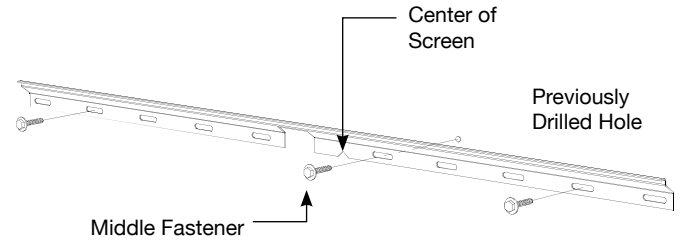
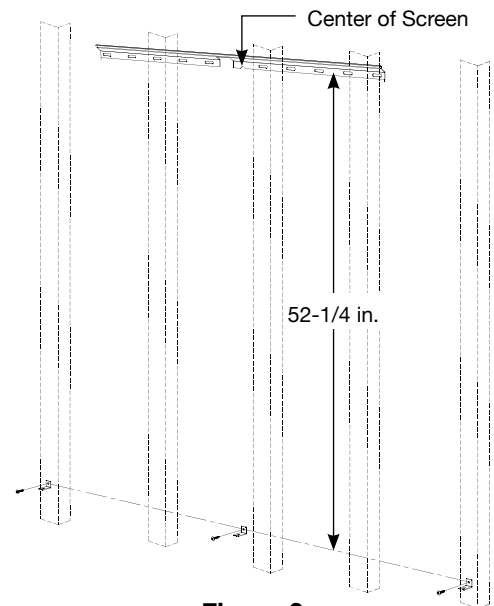

Figure 2
Figure 3
6. Install (1) 1/4" x 1-1/2" bolt and (1) washer through middle of bracket into previously drilled hole, leaving 1/2" of the bolt extending from wall. Use carpenter's level to make sure bracket is properly level (Figure 2).
7. Position level on top of wall bracket. Move bracket until level. Drill (2) holes for the other bolts in wall studs.
8. Install the other (2) 1/4" x 1-1/2" bolts and (2) 1/4" washers in the previously drilled holes. Tighten all bolts against wall bracket.
9. Measure down 52-1/4" on center and mark spot. Move right and left of screen until wall studs are found and mark (Figure 3).